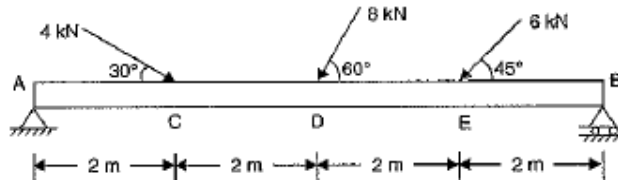

Fig.2
- A horizontal beam AB of length 8m is hinged at A and placed on rollers at B. The beam carries three inclined point loads as shown in Fig.2. Draw the S.F and B.M and axial force diagrams of the beam. [7M]